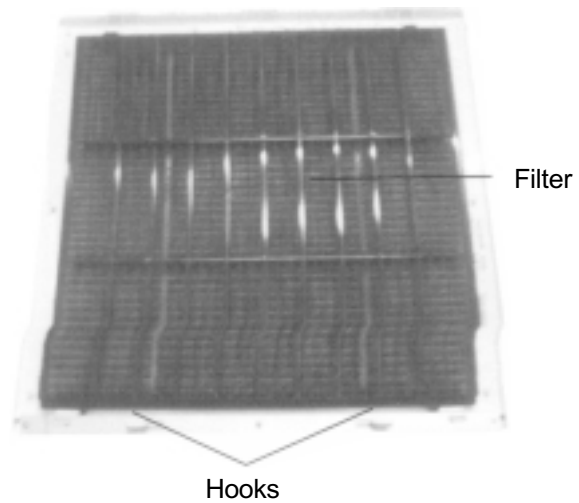

Figure 23
- ⑬ Disassemble the filter.
- Push the two hooks inwards. Push the filter backwards and remove it as shown in figure 23